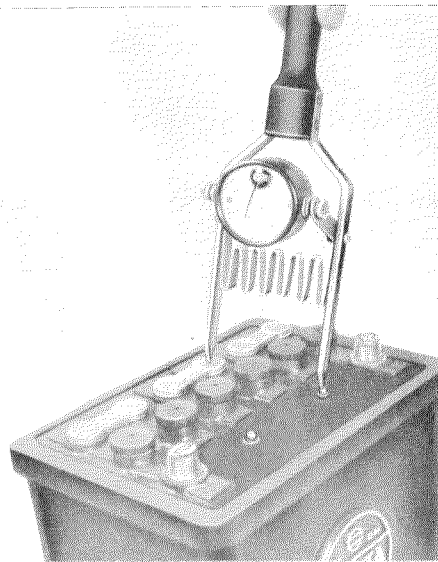

Figure 15-40/4
1. Press the contact prods of the cell tester firmly against the two terminals of a cell (Figure 15-40/4).